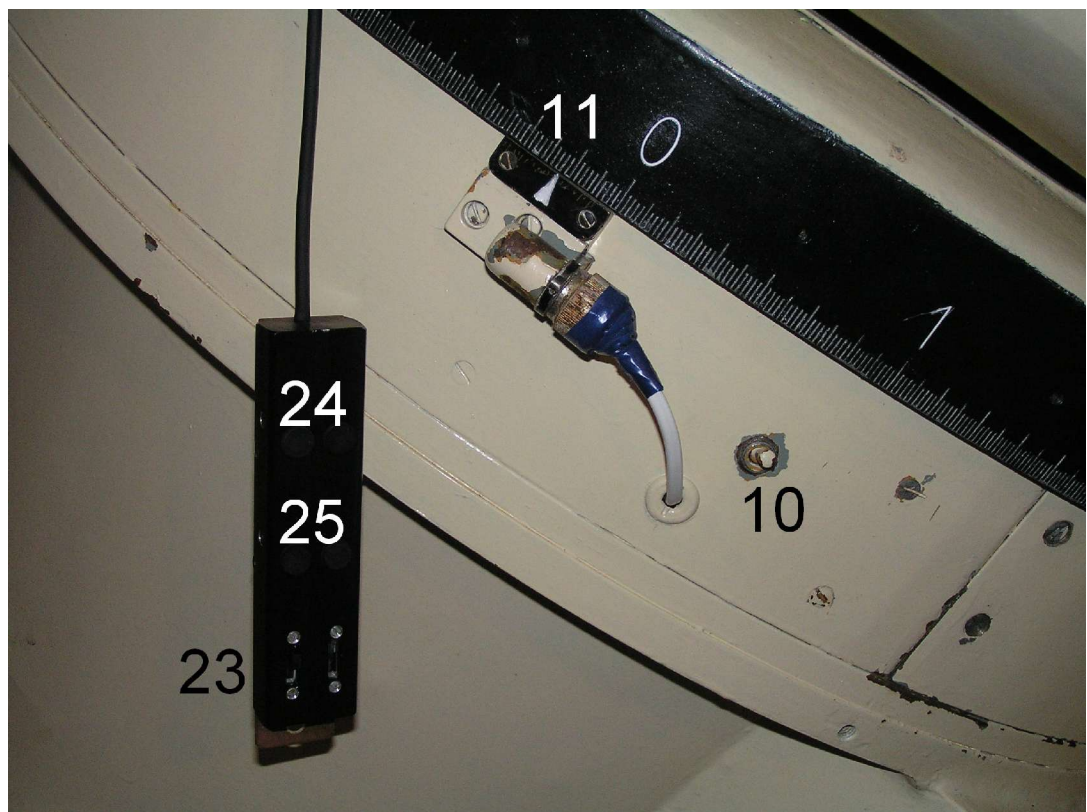
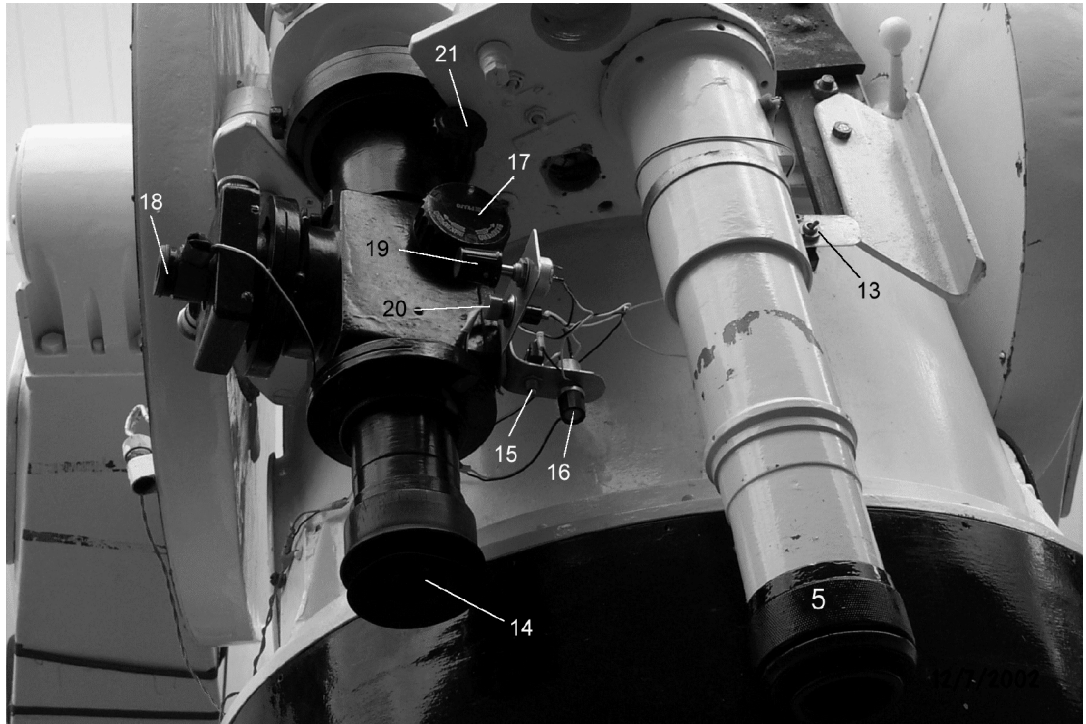

Fig.5. Limb of hour angle 11 (smallest partition – 1 m = 15 arcmin) and guiding handpaddle:
Fig. 6. Both oculars of the guide and the viewfinder (5).
(on the left side of the telescope) and fix it with one of the same handles. The finest partition on this limb is 20 arcmin. The limbs illumination switch 10 (Fig. 5) is on the hour angle limb
When the target star is rather bright, it is possible to directly point the telescope by releasing both the declination and hour angle handles and aiming the telescope at the target via the viewfinder, which has an ~11 deg field of view. If the sky background is dark enough, and the cross-hair of the viewfinder is not visible, the field can be illuminated using the switch 13 (Fig. 6).
3.3 The guiding star may be moved to the cross-hair of the guiding telescope (the guide) using the corresponding handpaddle (12, Fig.5). The guide has two oculars: for the straight viewing 14 (Fig. 6) – 1.6 deg field, and 90 deg viewing – 18 arcmin field. The cross-hair of the straight view eyepiece can be illuminated using the tumbler switch 15 (Fig. 6) and regulating the light with the rheostat 16.
3.4. To direct the star image to the 90 deg viewing narrow-field eyepiece, rotate the big handle 17 (Fig. 6) till the dead end. The cross-hair illumination of this eyepiece can be regulated with the rheostat 19 or can be switched off temporarily by pressing the red button 20.
The handpaddle (Fig. 5) has four buttons: 24 is for the declination and 25 is for the hour angle. There are three speed options which may be switched with the switch 23 of the handpaddle